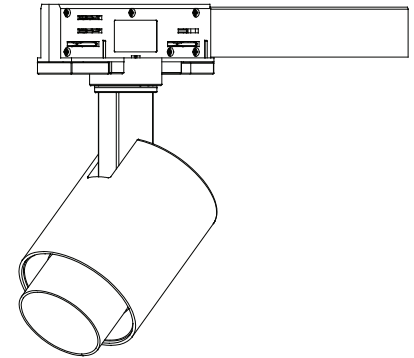

Fig.7
Step 3: Reinstall front cap back in place. Ensure torsion spring securely goes back into spring slot on fixture (See **Fig 7**)